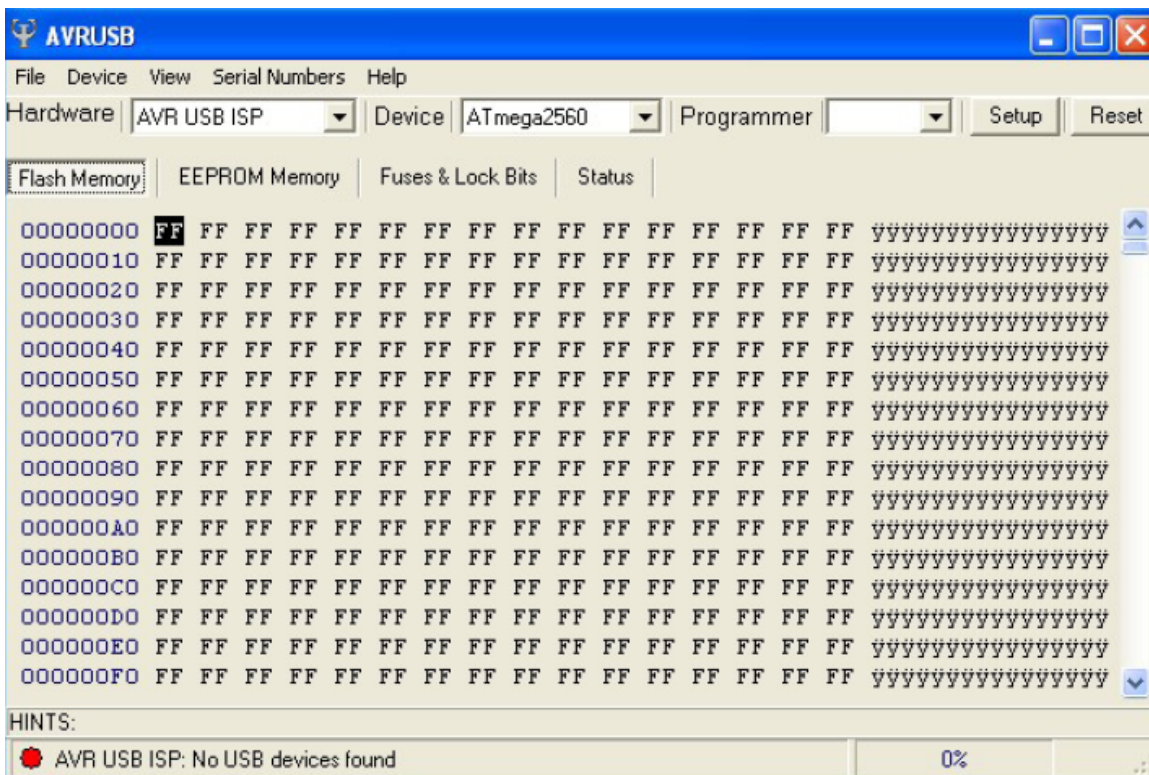

Figure 2
- Refer to Figure 2 on the next page for the AVRUSB program.